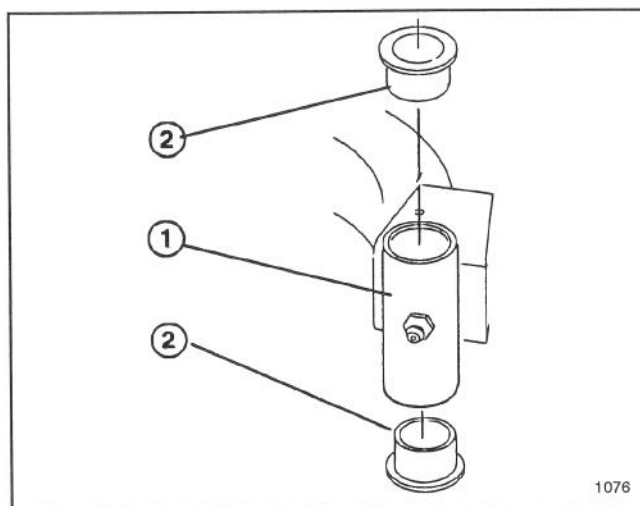

Figure 8
2. Remove retaining ring, spacer and thrust washer(s) from top of castor spindle (Fig. 8). Pull castor spindle out of mounting tube. Leaving thrust washers on bottom of spindle.
3. Insert pin punch into mounting tube and drive out bushings (Fig. 8). Clean inside mounting tube.